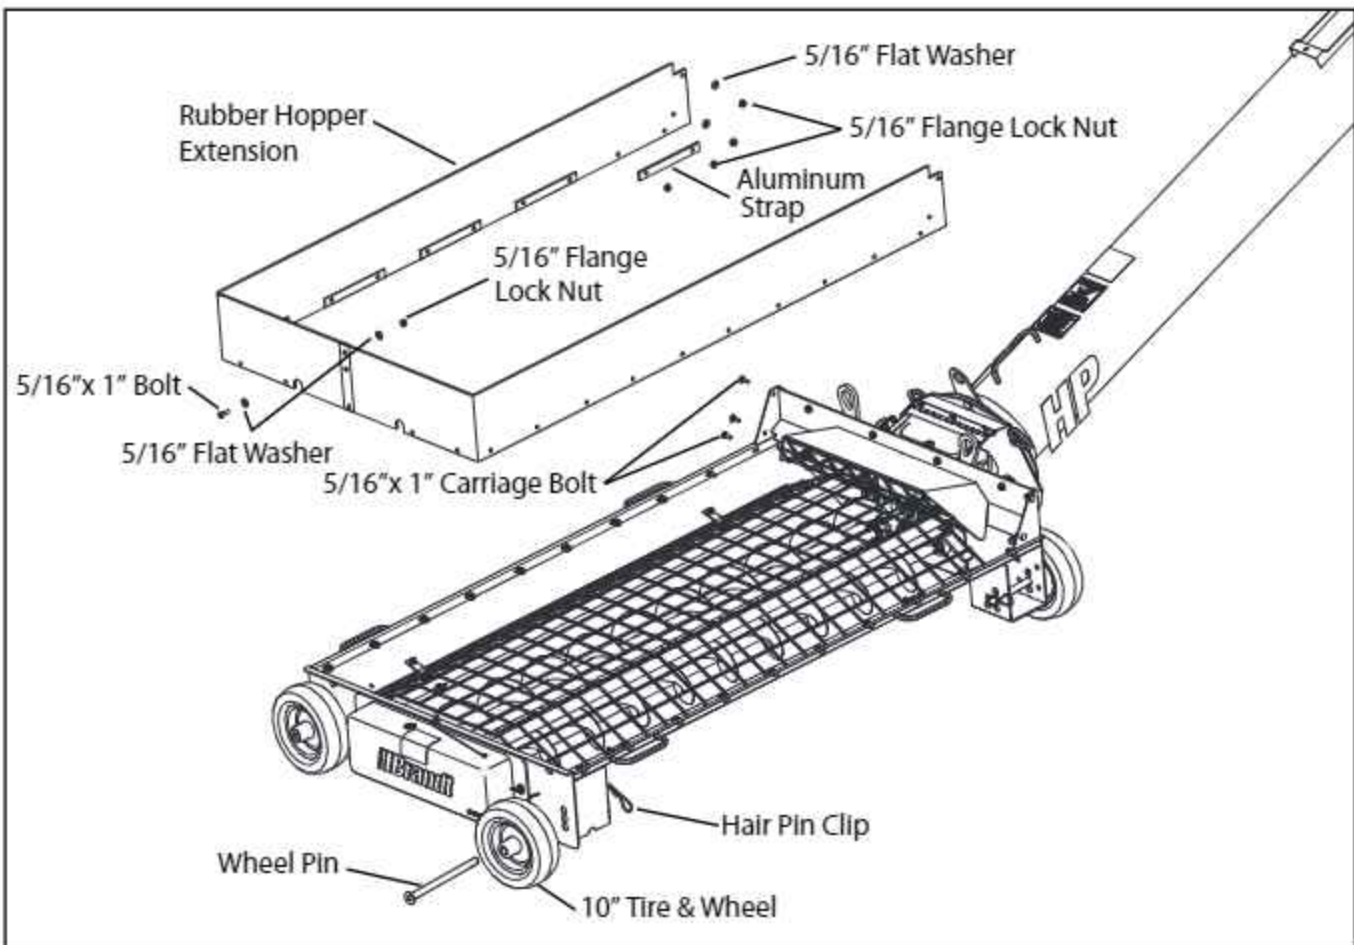

FIG. 3-37. Hopper Extension & Hopper Wheel Assembly
13. Install the hopper wheels on the hopper using a plated wheel pin (3/4" dia pin with two holes) and a 3/16" hair pin clip on both sides. See Fig. 3-37.